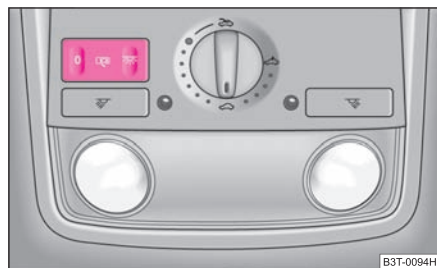

Fig. 48 Detail of the headliner: front interior lighting
- Press the switch at the point of the symbol  ⇒ fig. 48 or ⇒ fig. 49.